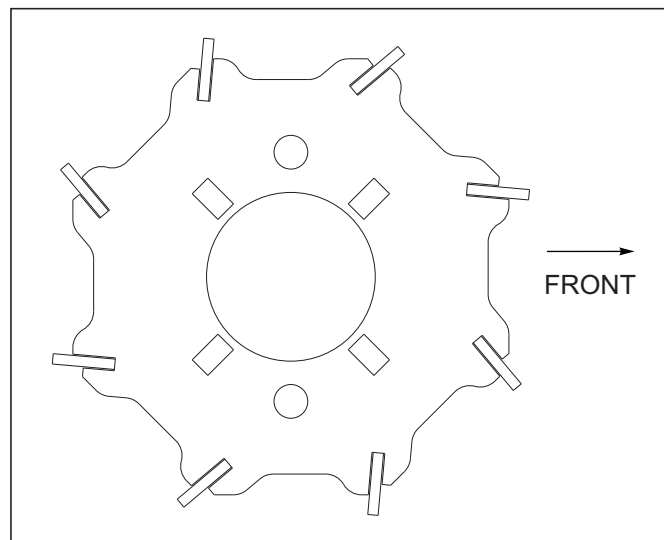

Figure 3-64: Flat Reel
9. Attach flat bar reels with angled blades as shown **See Figure 3-64**.